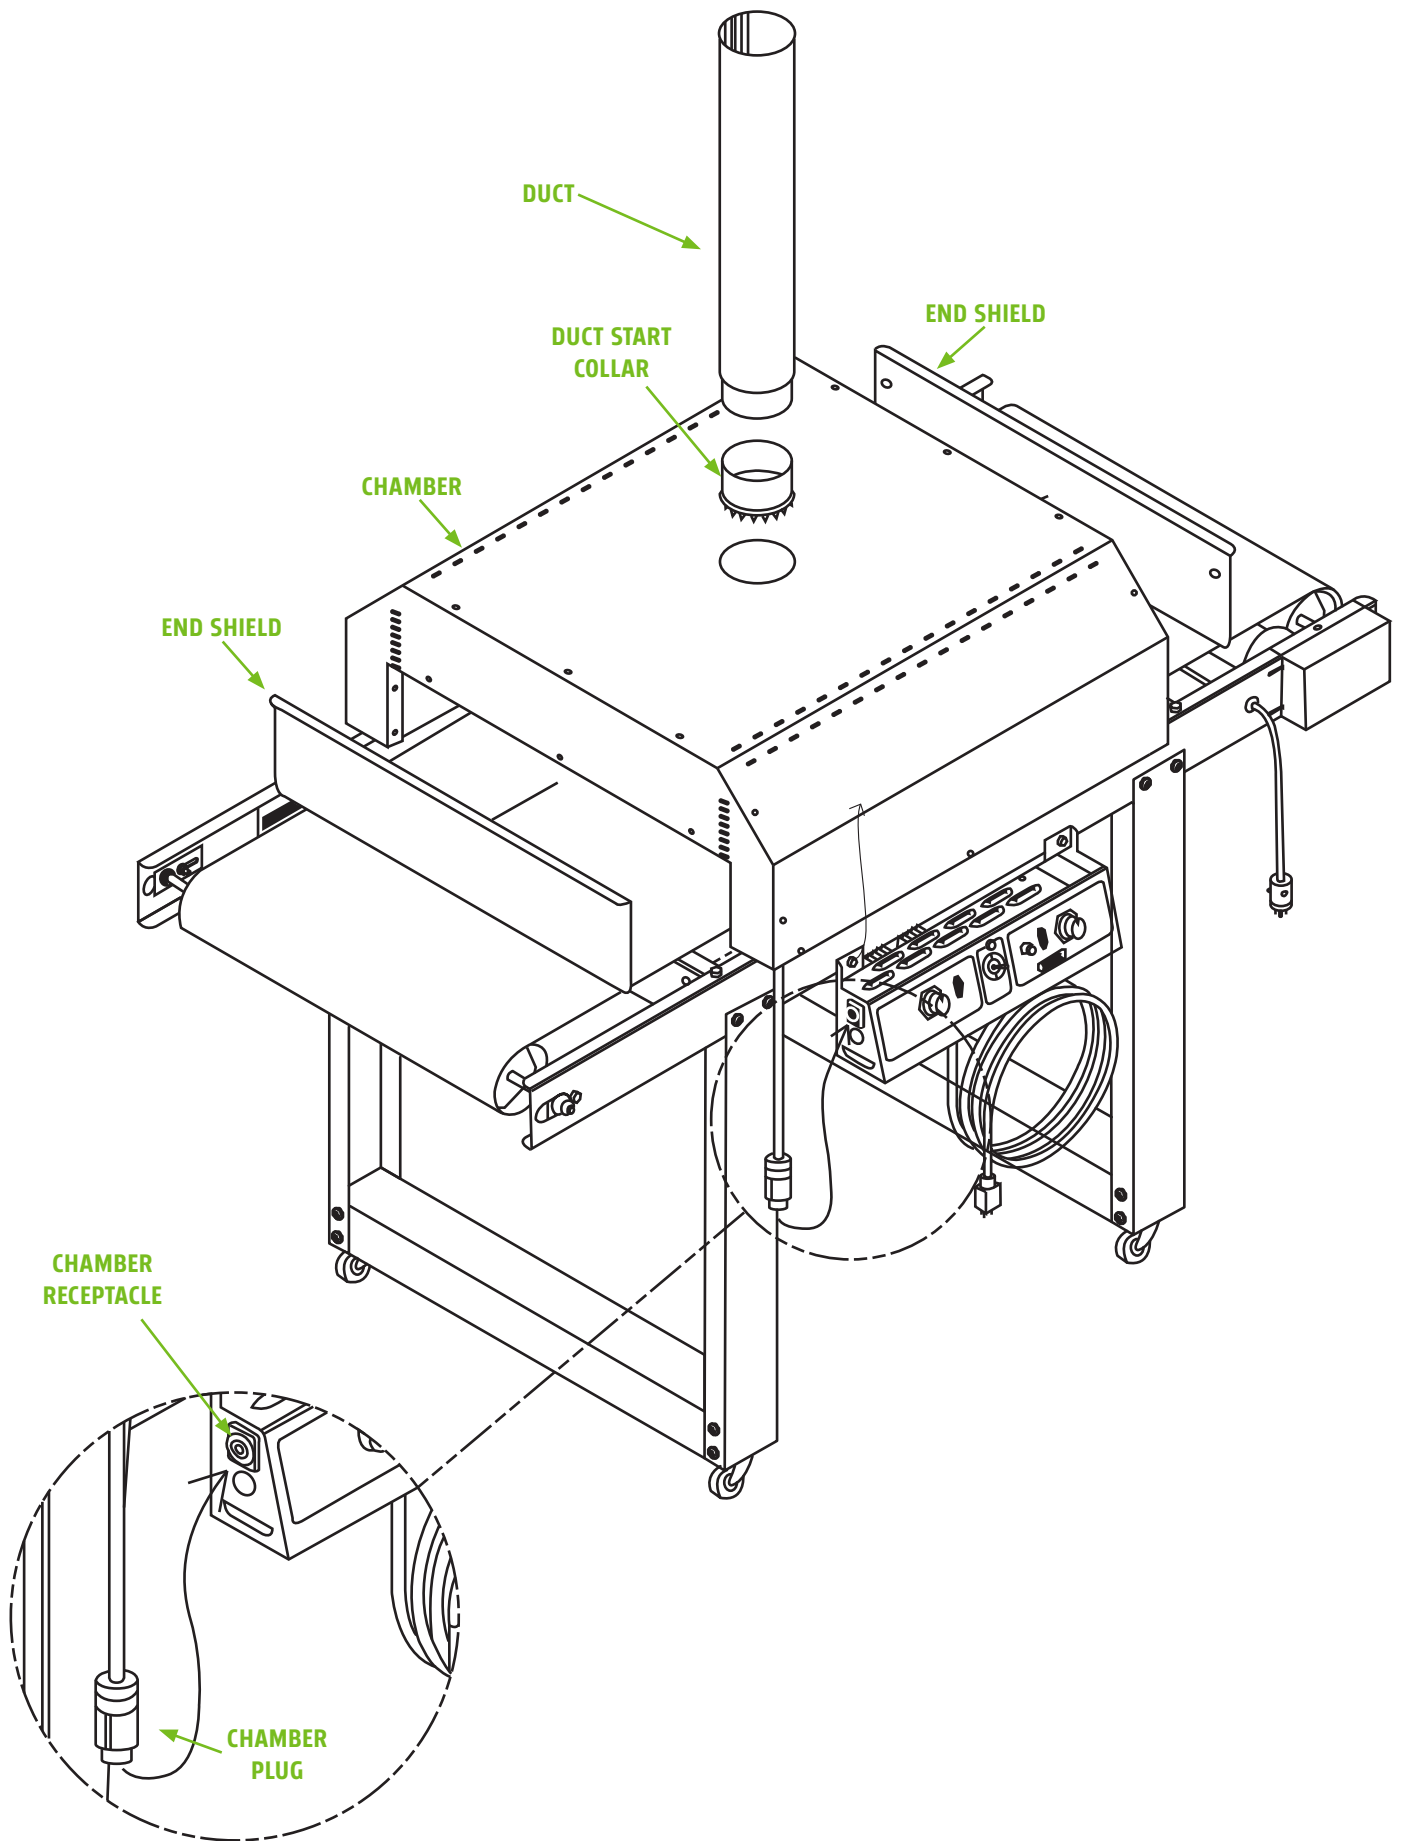

FIGURE 8
3. Insert the Duct Start Collar into the hole in the top of the Heating Chamber (See **Figure 8**). Once in position, bend the tabs at the base of the collar outward to secure it in place. Place the two-foot section of 4" diameter Duct onto the Duct Start Collar.
4. Place End Shields at the desired height on the entrance and exit of the Heating Chamber. Plug the Heating Chamber cord into the receptacle on the Control Panel (See Magnified View, **Figure 8**).
5. Plug the Heating Chamber cord into the receptacle on the Control Panel (See Magnified View, **Figure 8**) [Page 9].